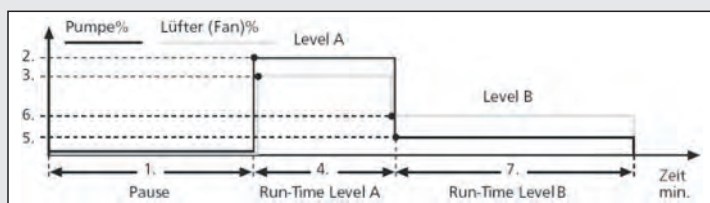

Fig. 4: Diagram Haze-Density Control Systems (HDCS)
**Example:** The device should start the fog process after 30 minutes (menu item 1). Then the stage should be fogged 10 minutes. For this purpose set high values for pump and fan and set time to 10 minutes (menu item 2, 3 and 4). After 10 minutes the output of the pump and the fan should automatically decrease and the stage should be slightly fogged another hour (menu item 5, 6 and 7). See also the diagram below (Fig. 4).